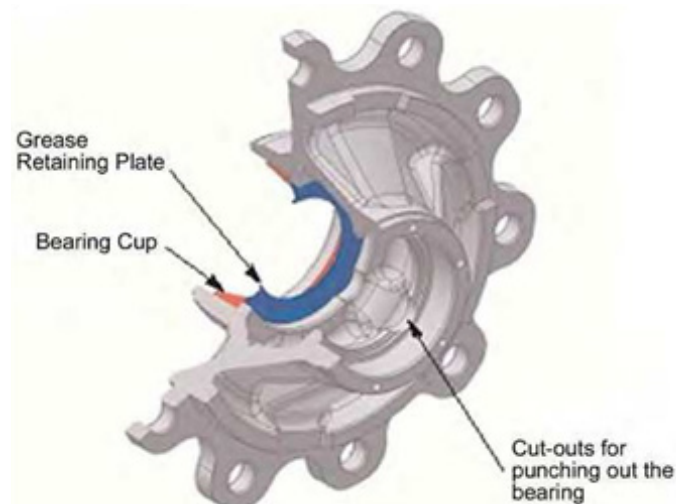

Fig. 26
- The bearing cups are an interference fit and must be punched out using a hammer and a mild steel punch (See **Fig.26.**)